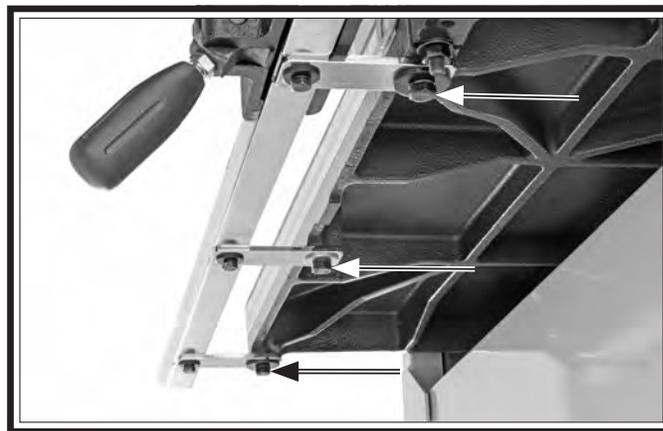

Figure 48. Location of fence rail hex bolts.
4. Loosen hex bolts that secure fence rail to table (see **Figure 48**).